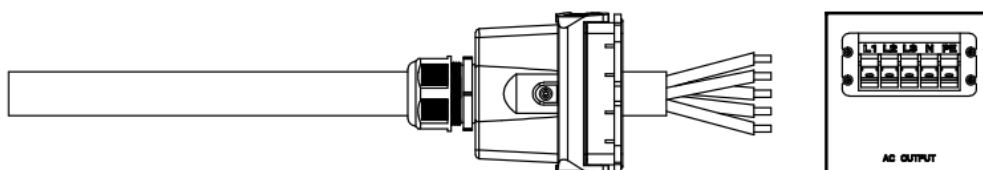

Fig. 17
2. The inverter has phase sequence self-adaption function, the sequence of three phase lines L1, L2 and L3 can not differentiated. Use a screwdriver to fix L1, L2, L3, N and PE wires to the corresponding AC terminals, and ensure that PE wires are grounded reliably (Fig. 17).